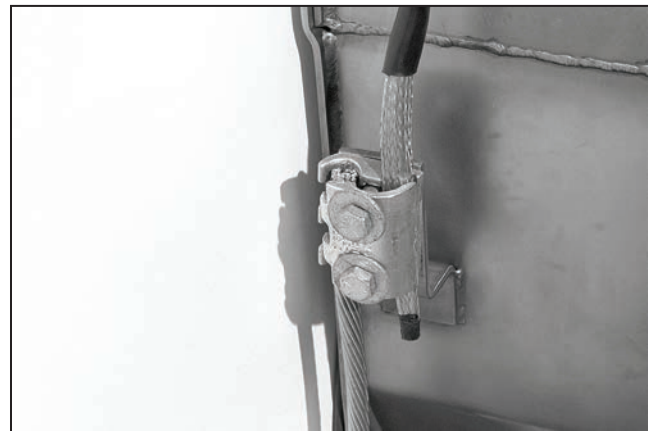

Figure 50. Connect shielded cable to tank ground.
- STEP 2.** Connect the ground pad of the tank to the system ground facility in accordance with the user's standard grounding practice. See Figure 50. Use the equivalent of 4/0 copper (or cable sized in accordance with the user's standard practice) in either a single or multiple connection to realize the maximum momentary rating of the switchgear. For a multiple connection, cables smaller than 1/0 copper or equivalent should not be used.